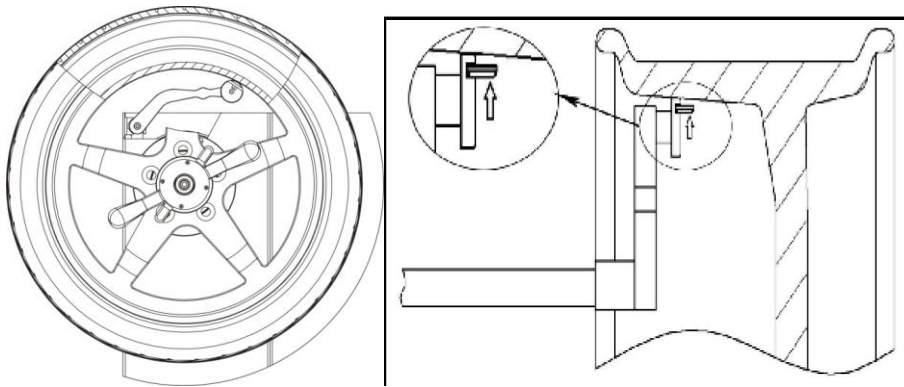

Fig 18
4.4 Paste the weight at outside unbalance position see Fig18